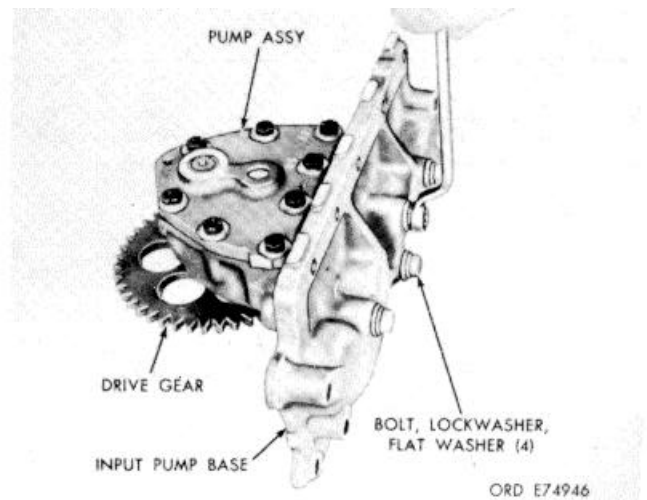

Figure 7-55 Removing for installing) input pump base bolt.)
- c. Install input pump drive gear shaft (22) into input pump body (25).
- d. Install driven gear roller (3) and driven gear (4) onto input pump drive gear shaft (22).
- e. Install retaining ring (5, FO-11) onto input pump drive gear shaft (22).
- f. Install idler gear shaft (12) into input pump cover (8).
- g. If bearings (14 and 16) were removed from idler gear (15), install replacements. Install each bearing, pressing against the numbered side of the cage, 0.005 to 0.010 inch below the surface on each side of the gear.
- h. Install idler gear assembly (13) onto idler shaft (12).
- i. If bearing (7) was removed from input pump cover (8), install a new replacement. Install the bearing from the flat side of the cover, pressing against the numbered side of the cage, 0.005 to 0.010 inch below the surface of the cover.
- j. Install ball (11, FO-11) into idler shaft (12), using oil-soluble grease to retain it.
- k. Install input pump cover assembly (6) onto input pump body (25) and secure it with eight selflocking bolts (9) and flat washers (10). Tighten the bolts to 17 to 20 pound feet torque.
- l. Install gasket (17) and input pump base (18) onto input pump body (25).
- m. Secure the base with four 3/8-16 x 2 1/2-inch bolts, lockwashers, and flat washers. Refer to figure 7-55.